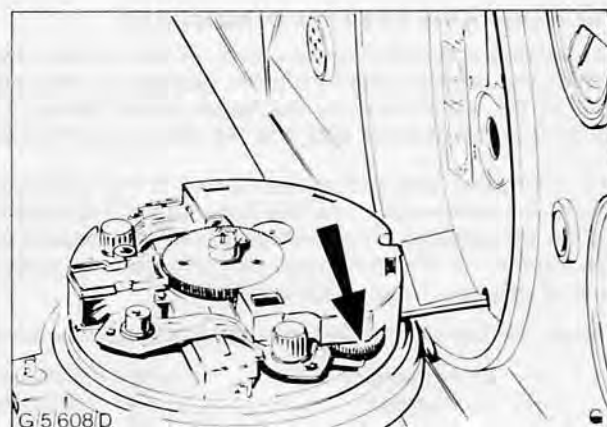

Fig. 3. Clock setting wheel (arrowed)
2. Open the front of the tachograph (this should only be done with the vehicle stationary). If the tachograph clock shows an incorrect time, it should be adjusted by rotating the clock setting wheel, shown in Fig. 3.